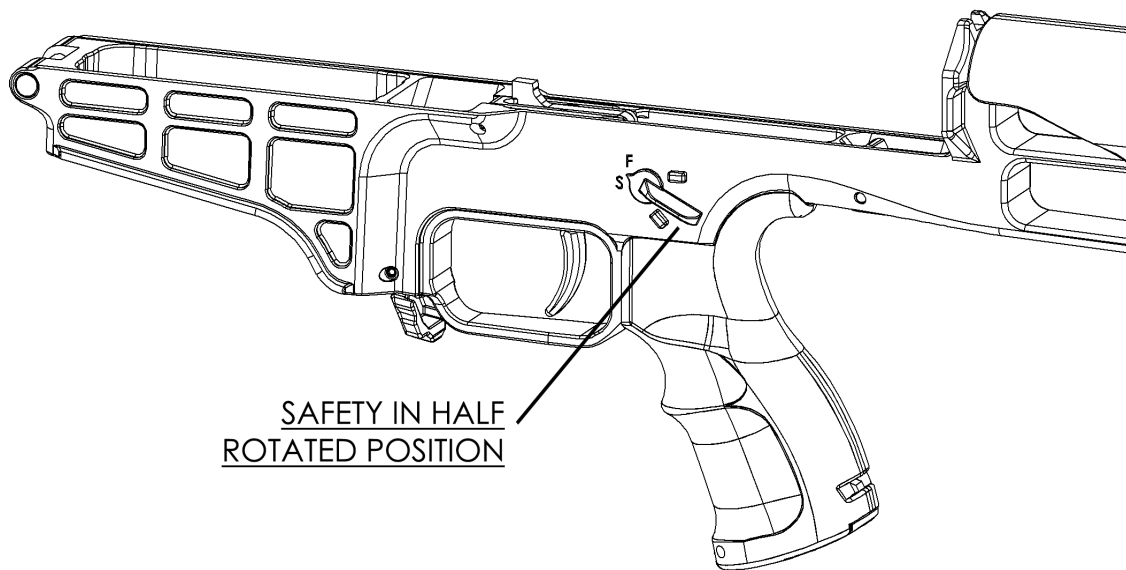

Figure 22. Removal of the Safety
2. Rotate the safety half way between the stops on the receiver. (Figure 22.) From the opposite side of the lever push and slightly rotate the safety out of the receiver. This may require a flat punch.